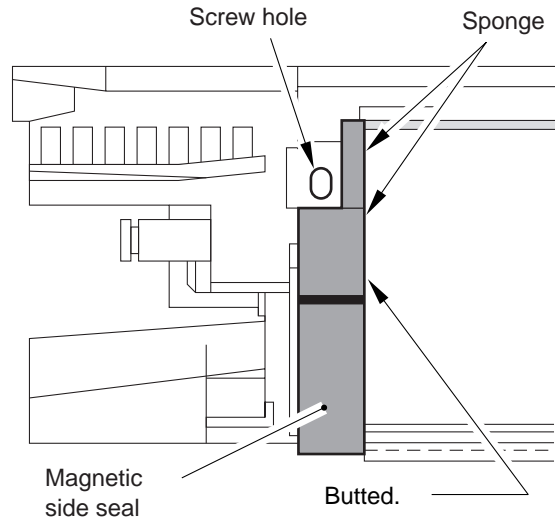

Figure 4-821
- 2) Fix the side magnetic seal at the position shown in Figure 4-821.